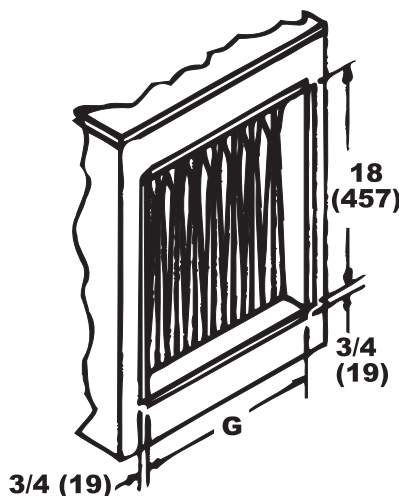

Figure 20. Ductwork Connection Dimensions (Refer to **Table 15**)
- **Connection dimensions:** connection dimensions (inches (mm)) are shown in **Figure 20** and listed in **Table 15**.
*See Figure 20.